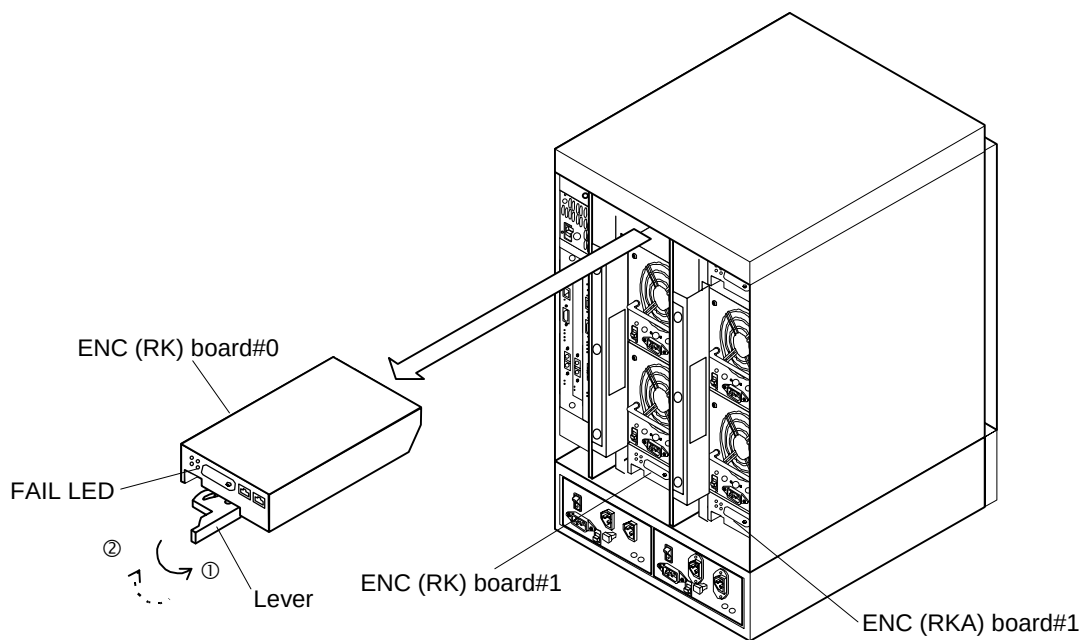

Figure 4.2.10 Replacing of ENC Board
(1) Procedure for replacement with the power turned on (See Figure 4.2.10.)